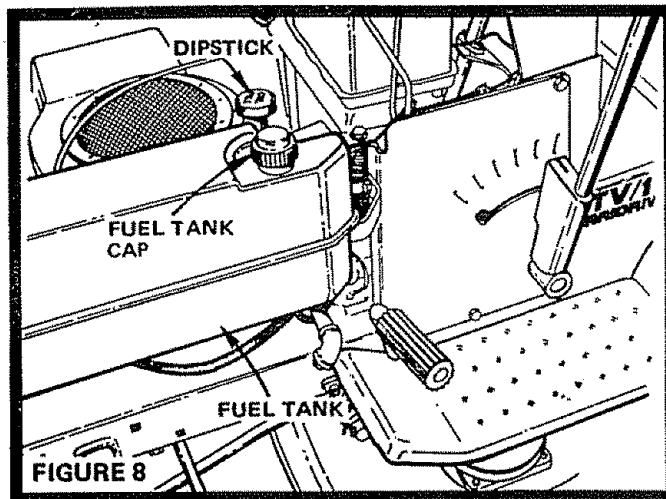

FIGURE 8
2. Check Engine Oil Level with Tractor on level ground. Remove Dipstick, wipe Dipstick (Fig. 8) clean, screw it in tight for a few seconds, remove and read Oil Level. If necessary, add Oil until "FULL" mark is reached. In summer use S.A.E. 30 (SC, SD, SE or SF) Oil. In winter (below 32°F.) use S.A.E. 10W30 (SC, SD, SE or SF) or 10W40 (SC, SD, SE or SF). In extreme cold (below 0°F.) use S.A.E. 5W20 (SC, SD, SE or SF). NOTE: DO NOT OVERFILL.
3. Fill Fuel Tank (Fig. 8) with fresh, clean regular grade leaded or low-lead automotive gasoline only. Capacity is 1.5 gallons. NOTE: DO NOT SWITCH FROM LEADED TO LEAD-FREE GASOLINE.